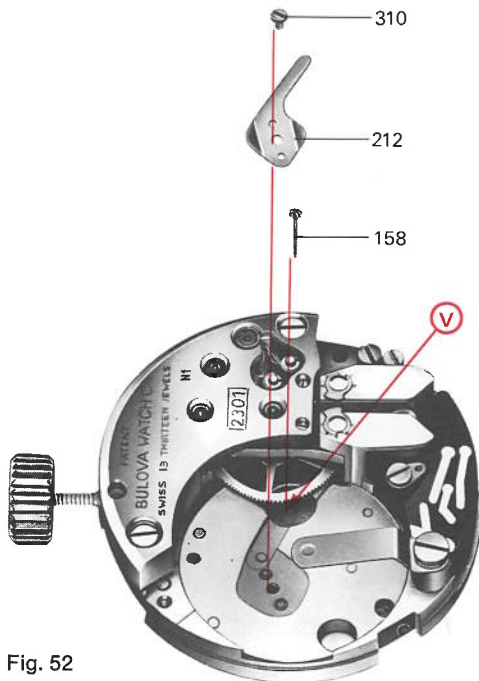

Fig. 52
- A. Install hour wheel and dial washer, if required, and dial screws (2)-(148)
- E. Install sweep second pinion (158) and oil (V). (fig. 52).